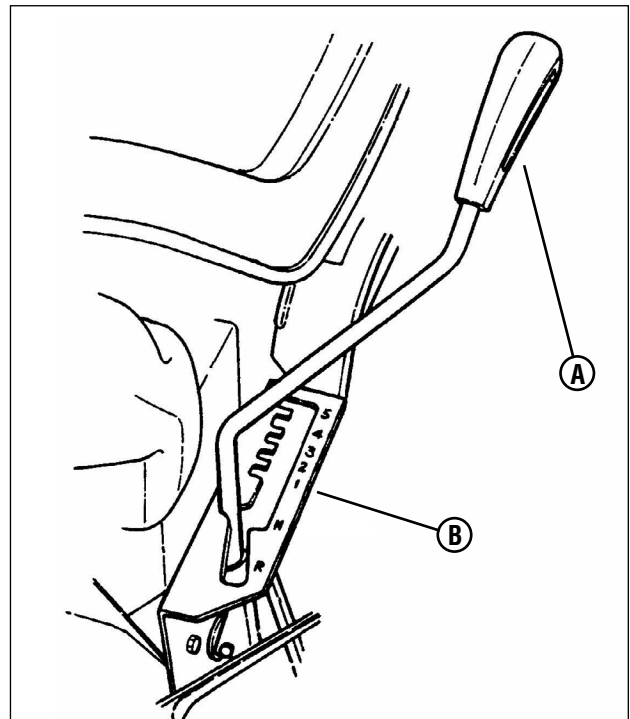

Figure 12: Transmission shift lever
3. Place the transmission shift lever (A, Figure 12) into the first forward speed notch (B).